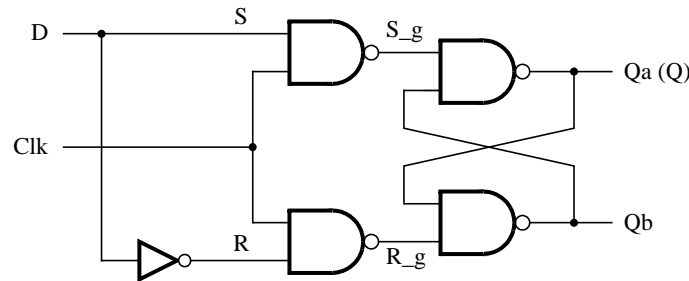
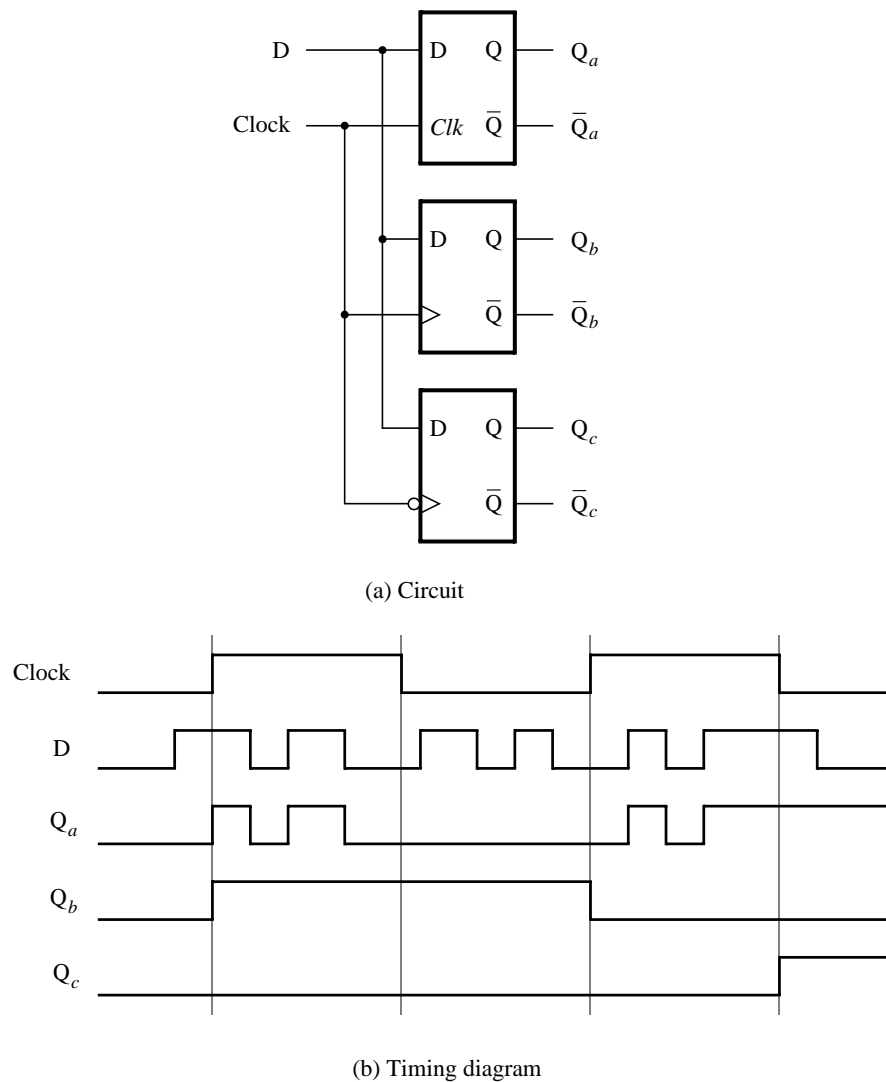

Figure 4. Circuit for a gated D latch.
Figure 6. Circuit and waveforms for Part IV.
Figure 4 shows the circuit for a gated D latch.
Figure 6 shows a circuit with three different storage elements: a gated D latch, a positive-edge triggered D flip-flop, and a negative-edge triggered D flip-flop.
2. Write a Verilog file that instantiates the three storage elements. For this part you should no longer use the `/* synthesis keep */` directive from Parts I to III. Figure 7 gives a behavioral style of Verilog code that specifies the gated D latch in Figure 4. This latch can be implemented in one 4-input lookup table. Use a similar style of code to specify the flip-flops in Figure 6.
4. Create a Vector Waveform File (.vwf) which specifies the inputs and outputs of the circuit. Draw the inputs *D* and *Clock* as indicated in Figure 6. Use functional simulation to obtain the three output signals. Observe the different behavior of the three storage elements.